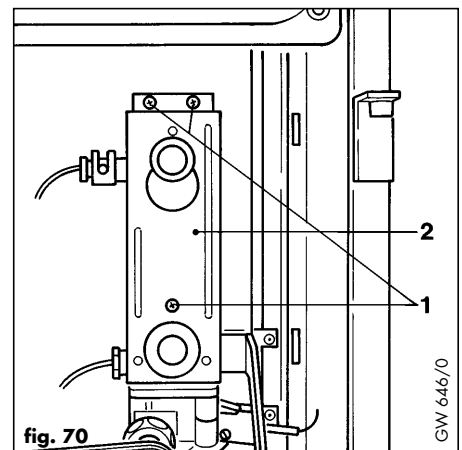

fig. 70
- Remove three screws (1, fig. 70) and pump support bracket (2, fig. 70).